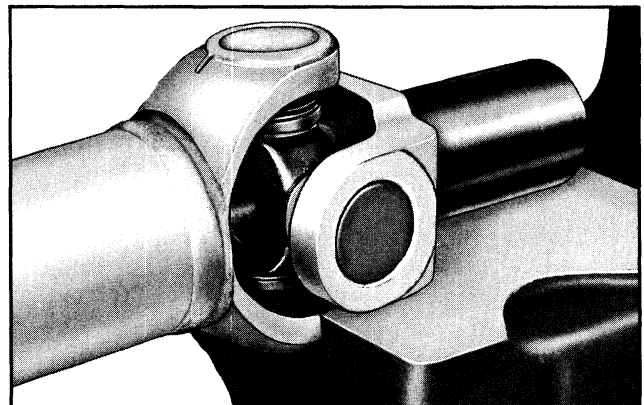

Fig. 4A-9 Supporting Splined Yoke
(slightly larger than 1-1/8 inches), Fig. 4A-5 apply force on fixed yoke until nylon retainer breaks. Fig. 4A-6. Continue to apply force until the downward movement of the yoke and the stationary position of the journal forces the bearing almost completely out of yoke. Fig. 4A-7.
4. Completely remove bearings by tapping around circumference of exposed portion with a hammer. Fig. 4A-8.